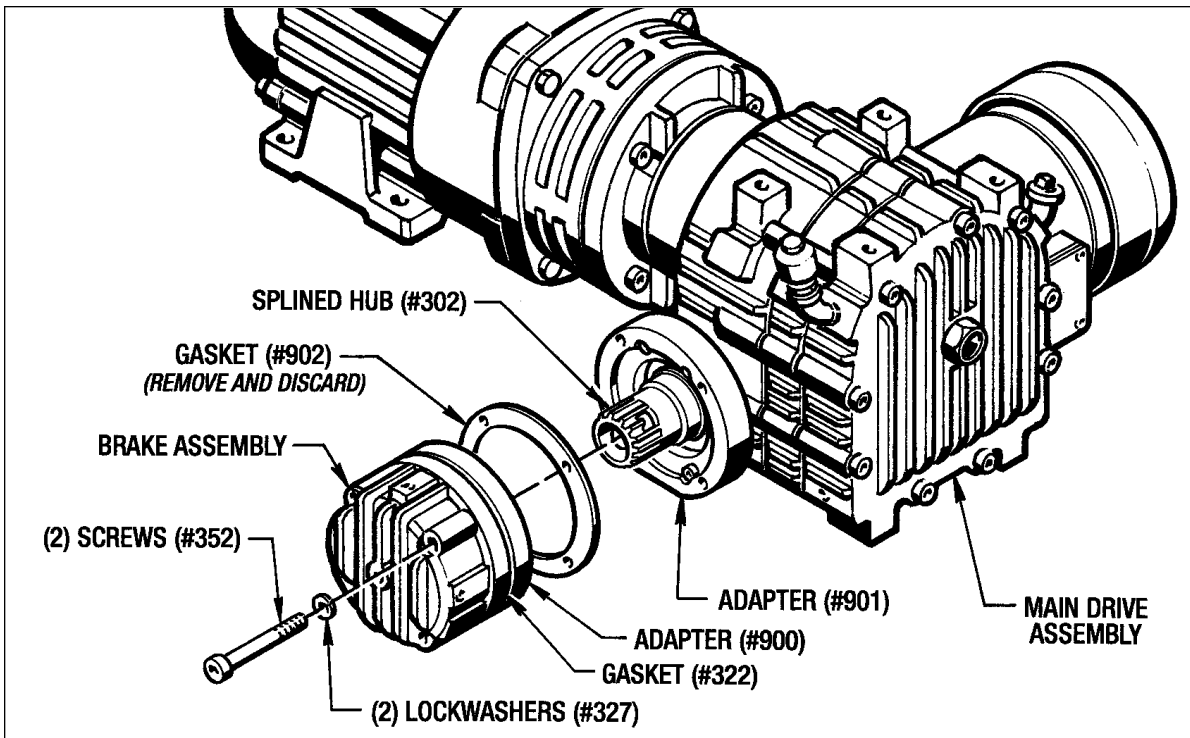

Figure 7.4 - Removing Brake Assembly
2. Remove the (2) Screws (#352) and (2) Lock Washers (#327) from the End Housing (#309).
3. Pull the Brake Assembly and Gasket (#902) off the Main Housing. Discard the Gasket (#902). (See Figure 7.4)
(See Figures 7.4 and 7.5)